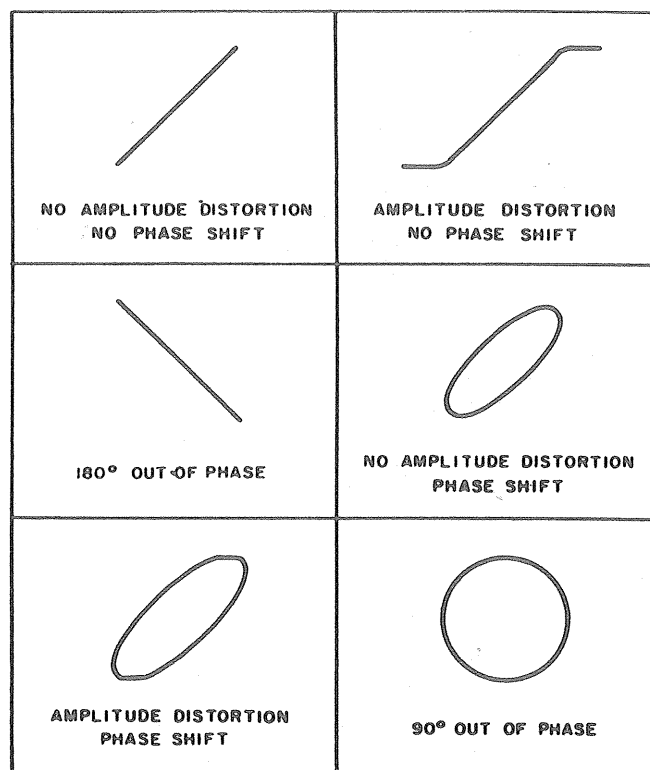

Figure 36. Typical Phase Measurement Oscilloscope Displays
7. Some typical results are shown in Figure 36. If the two signals are in phase, the oscilloscope trace is a straight diagonal line. If the vertical and horizontal gain are properly adjusted, this line is at a 45° angle. A 90° phase shift produces a circular oscilloscope pattern.